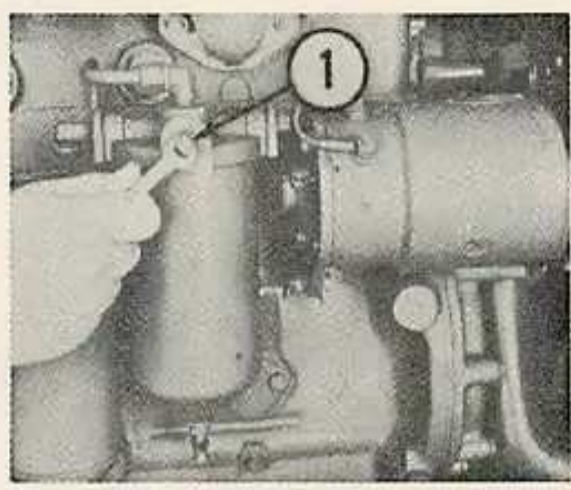
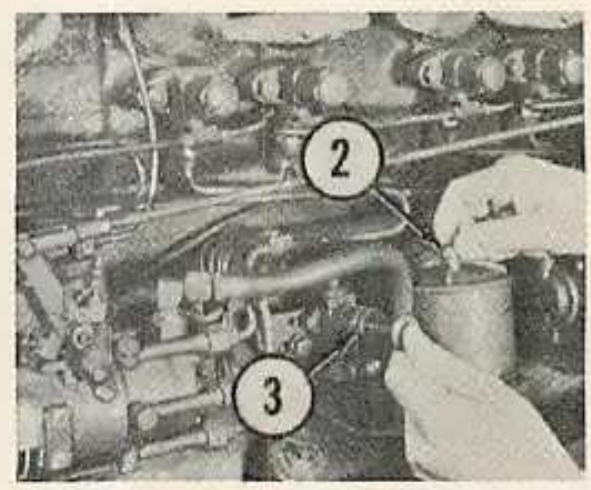

Fig. O81 — Remove plug (1) to purge air from primary fuel filter.
Fig. O82 — View showing method of bleeding final fuel filter. Refer to text.
113. To bleed the diesel fuel system, proceed as follows: Open fuel tank shut-off valve, then remove the plug from primary fuel filter (1—Fig. O81) and allow fuel to flow until all bubbles disappear. Reinstall plug. Loosen bleed screw (2—Fig. O82) on final fuel filter and actuate hand primer pump (3) or, on later models, primer lever on fuel supply pump,